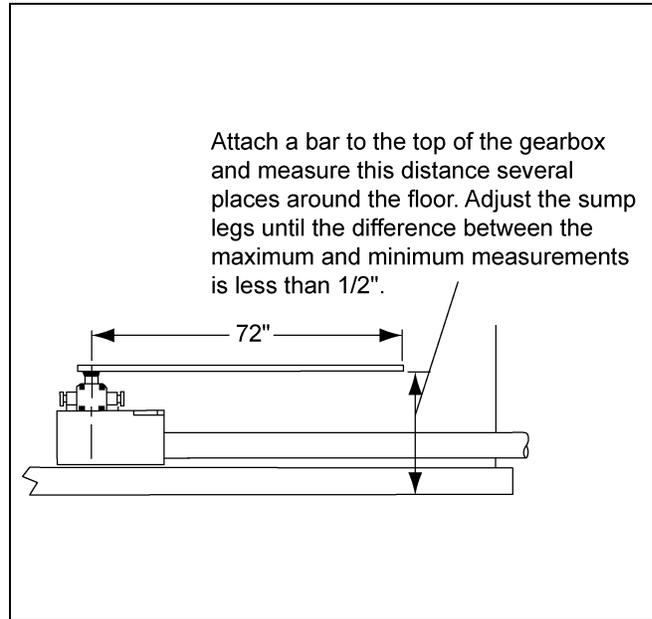
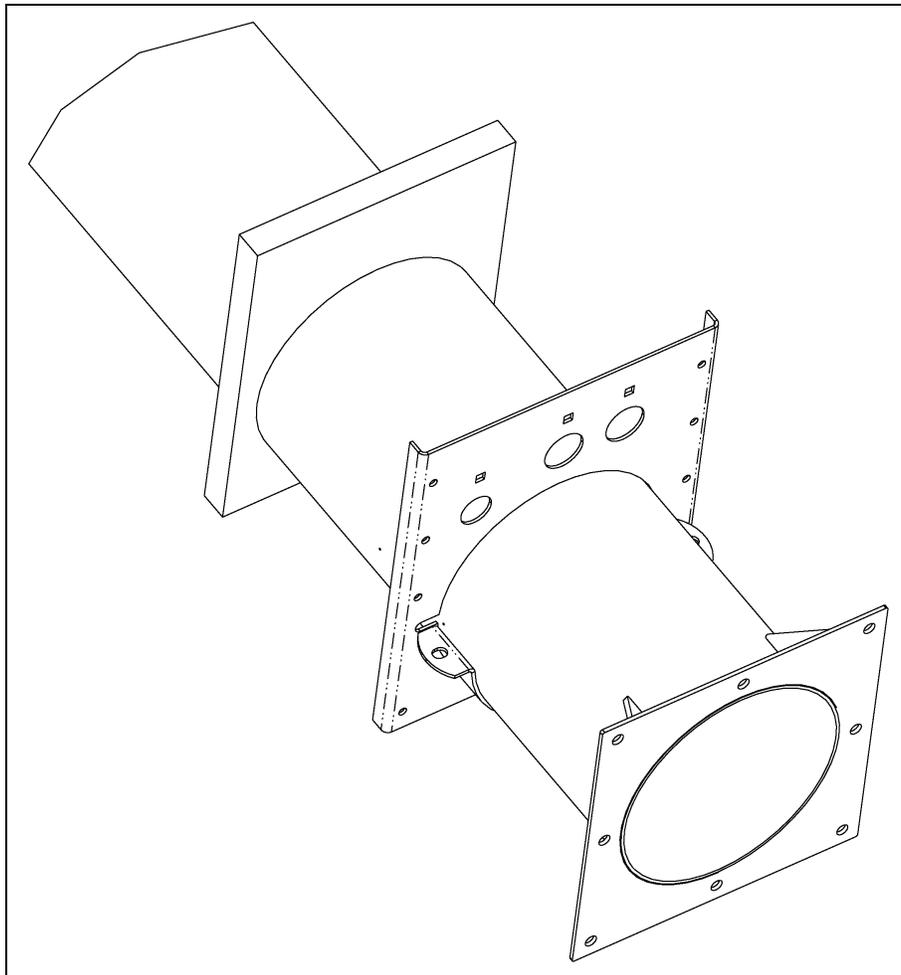

Figure 5H
Figure 5I
**Check to make sure that the gearbox and sump is level.** (See Figure 5H on Page 19.)
10. Slip the face plate and face seal onto the discharge auger tube. Next, insert the auger tube through the hole cut into the bin in Step 4 on Page 15. (See Figure 5H and Figure 5I on Page 19.)